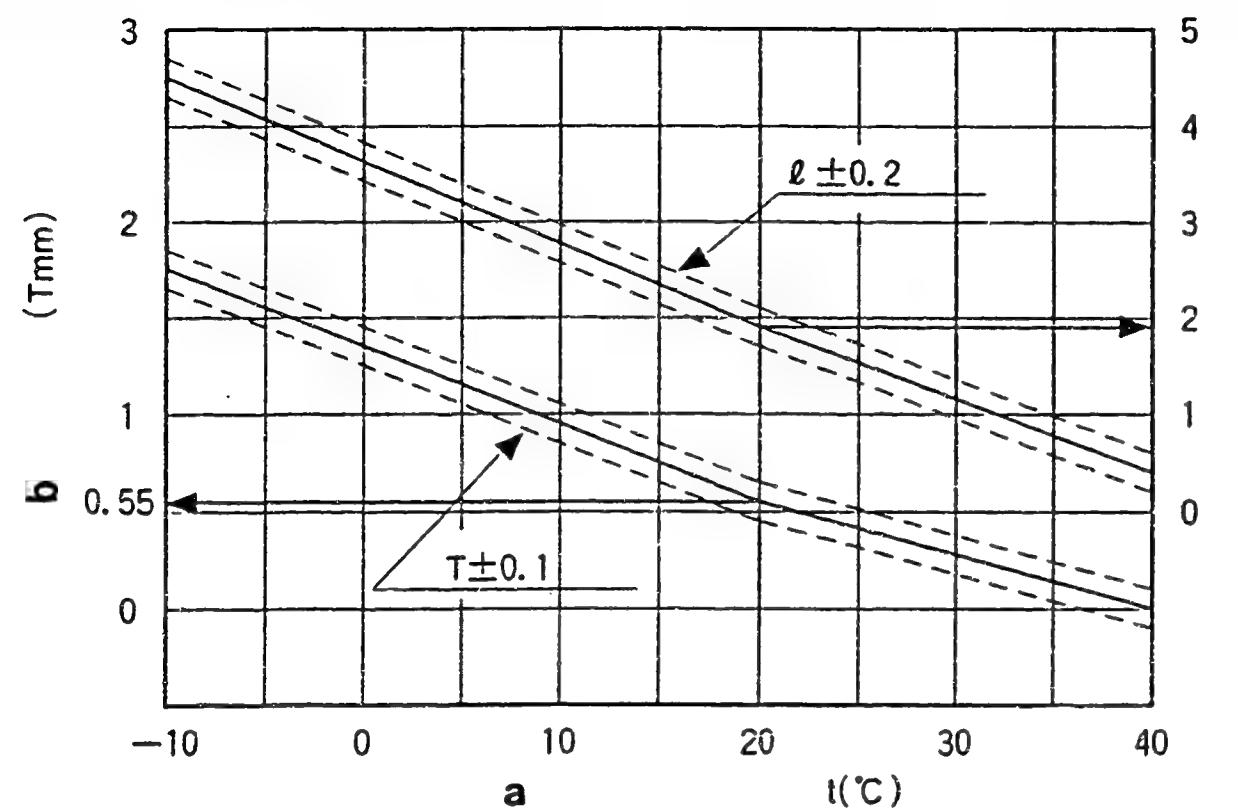

Figure 91
- 1) Calculate the timer stroke from Fig. 91 according to the atmospheric temperature at the time of adjustment.
- 1) Calculate the block gauge dimension  $l \pm 0.05$  mm from Fig. 91 according to the atmospheric temperature at the time of adjustment.